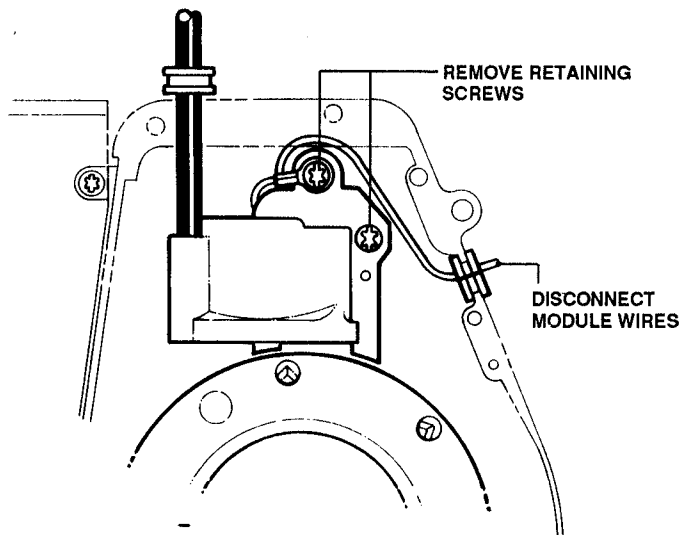

FIGURE 8
- The theory that an "ignition either works or does not work" is not always true. Electronic Ignitions can produce intermittent spark or spark only at certain temperatures. Refer to the troubleshooting guide when in doubt about ignition problems. Replace the ignition by removing the two retaining screws and disconnecting the module wires. See Figure 8.